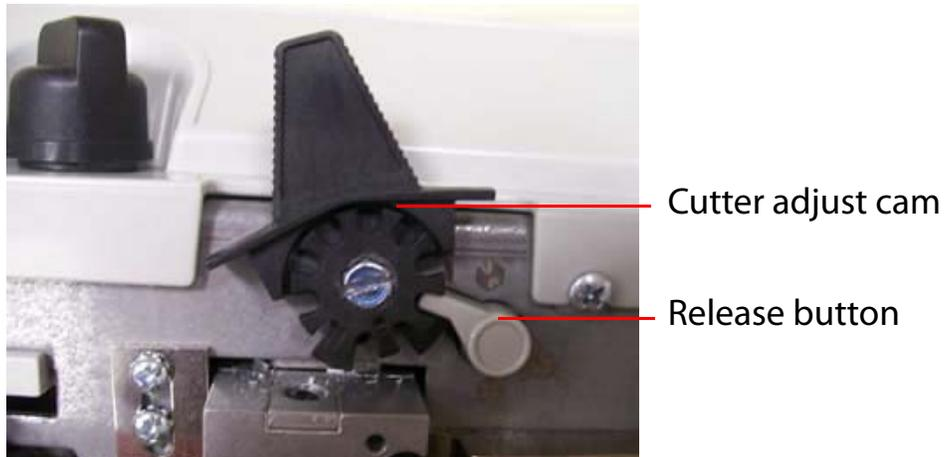

Figure 3: Cutter adjustment detail
- 2 Reference Figure 3 and make adjustments as described below: